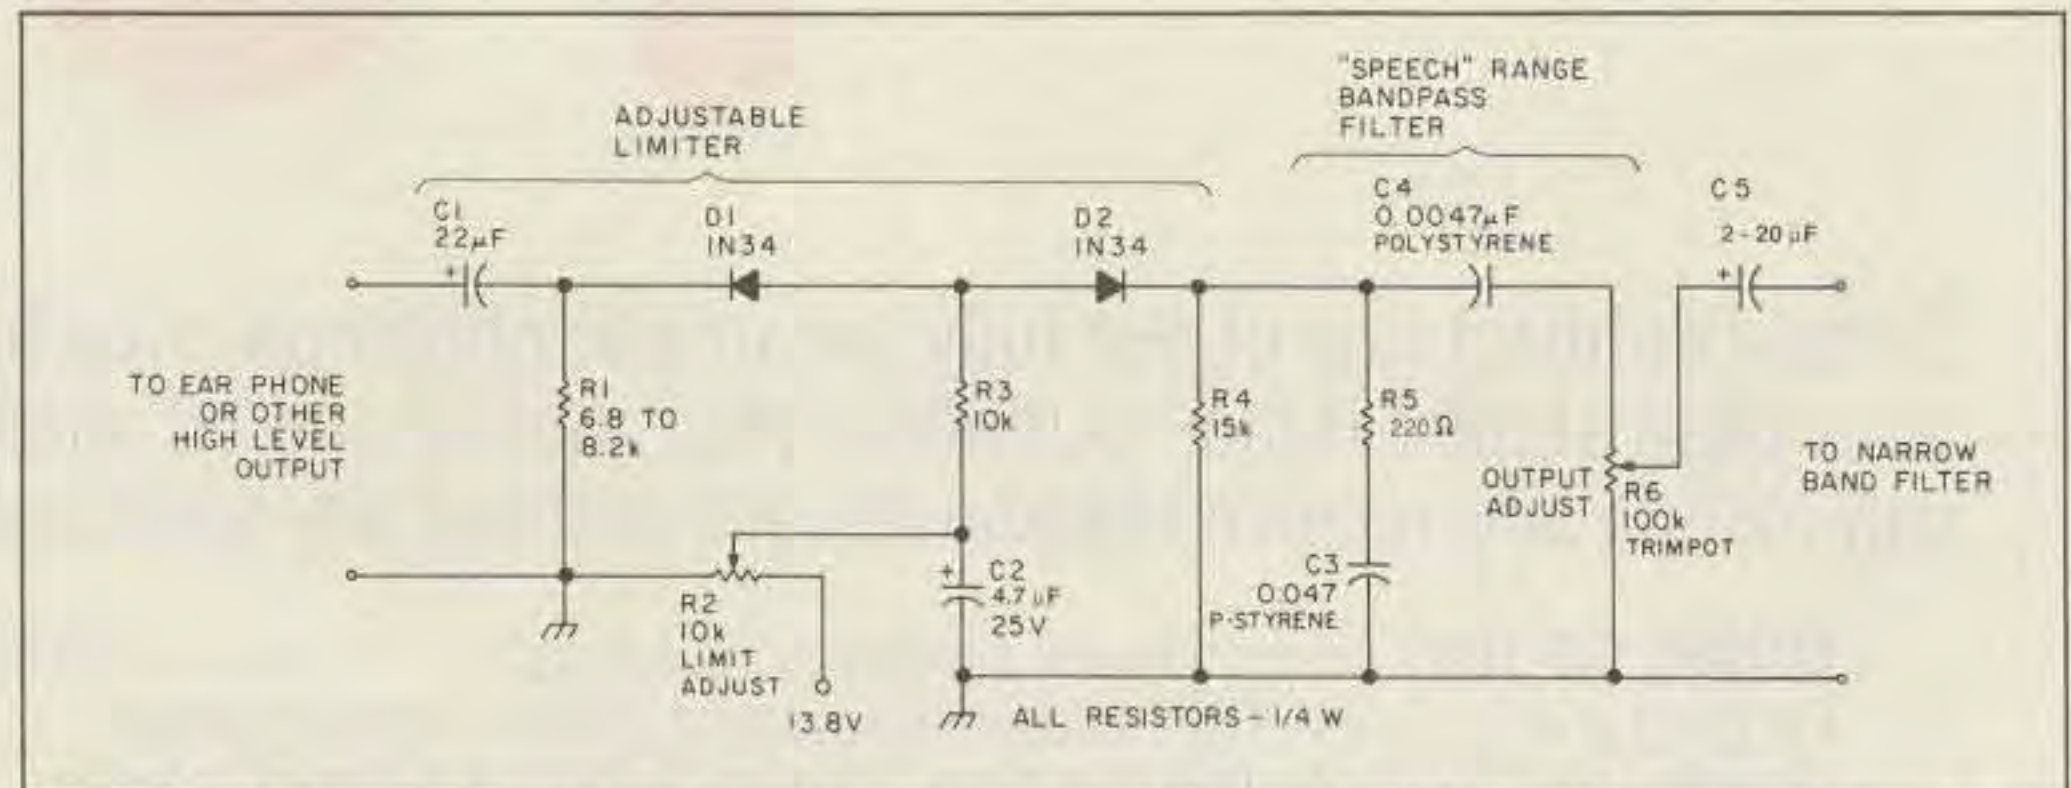
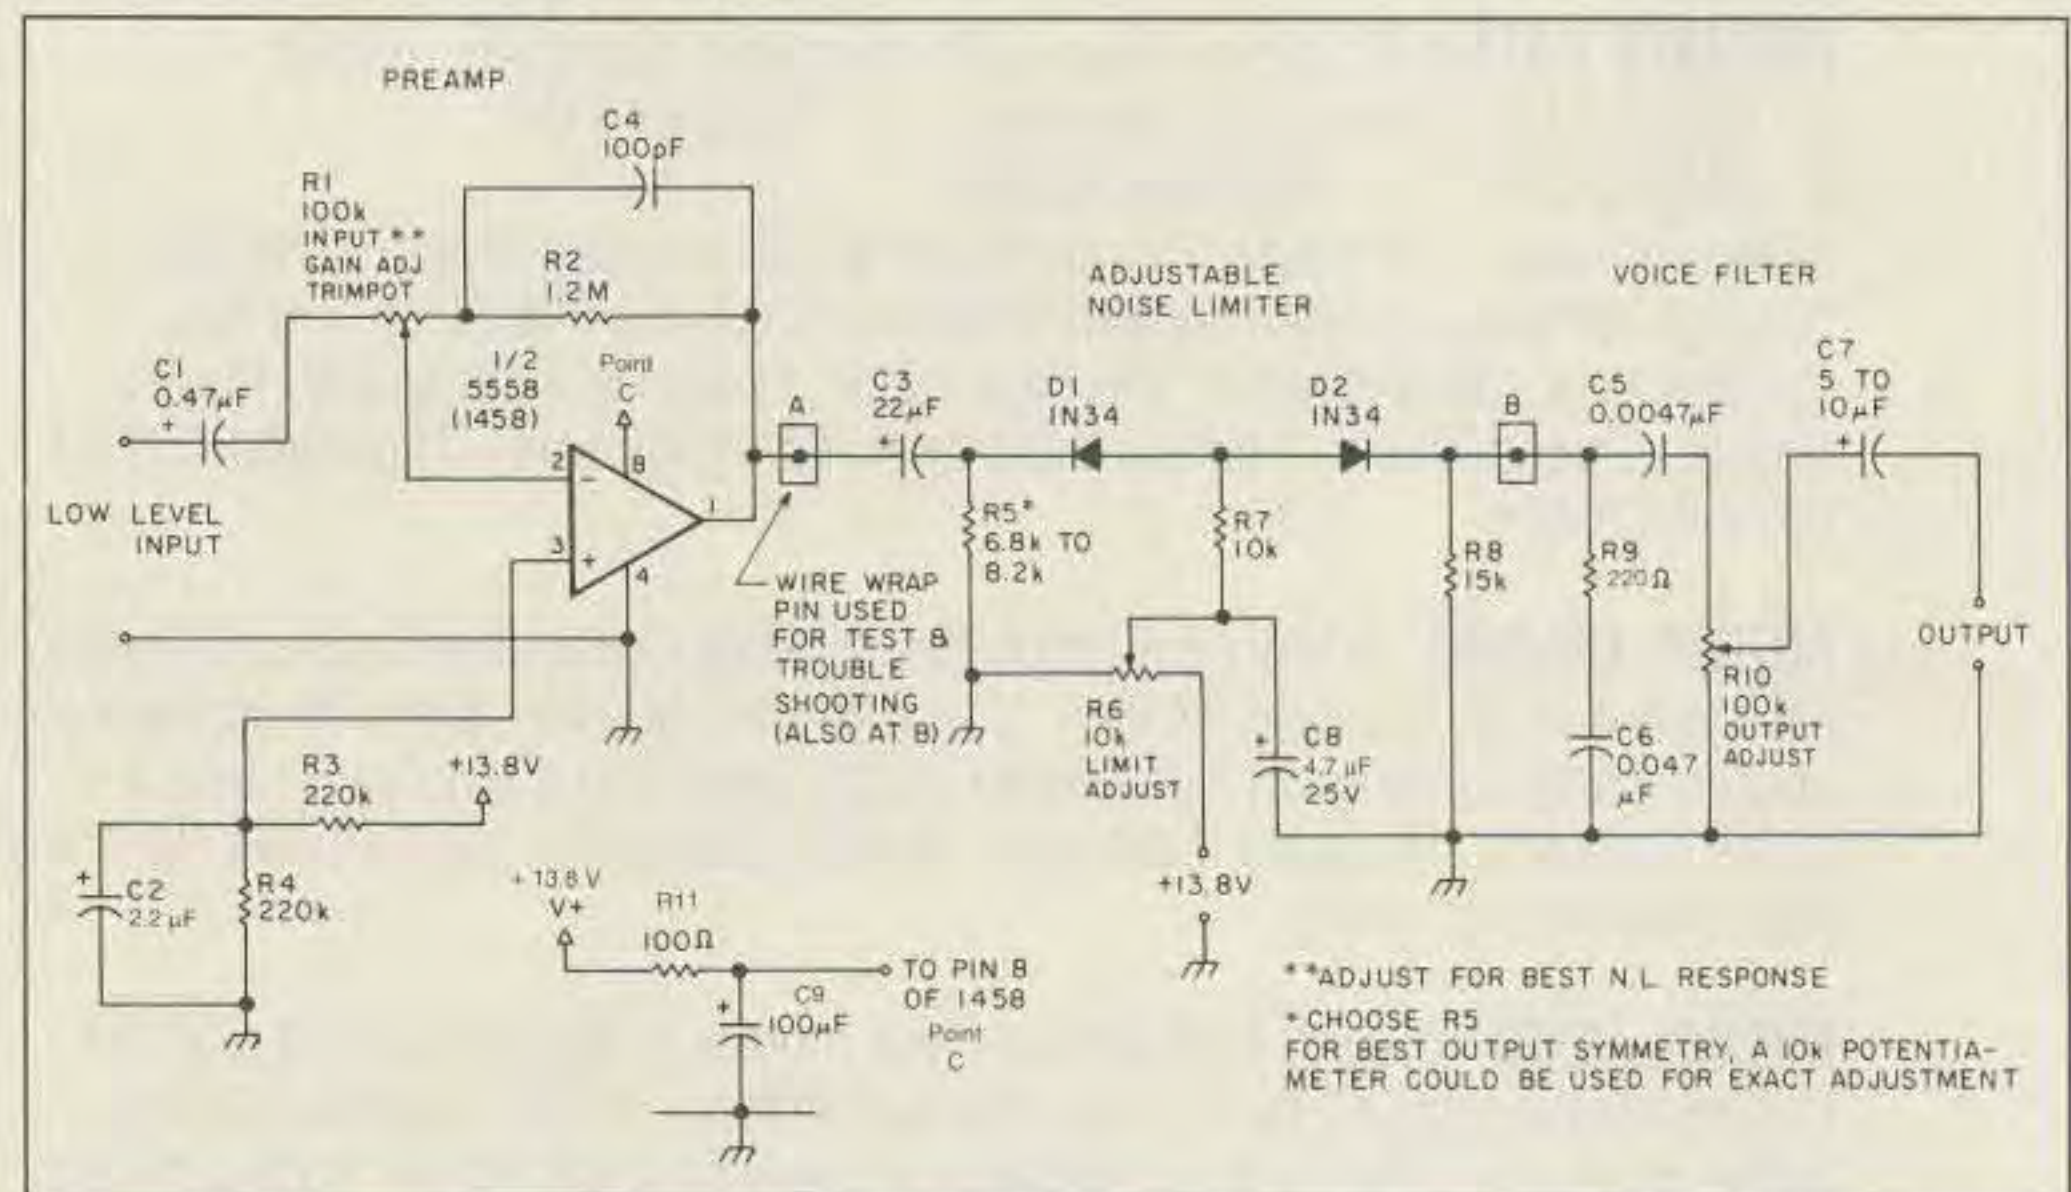
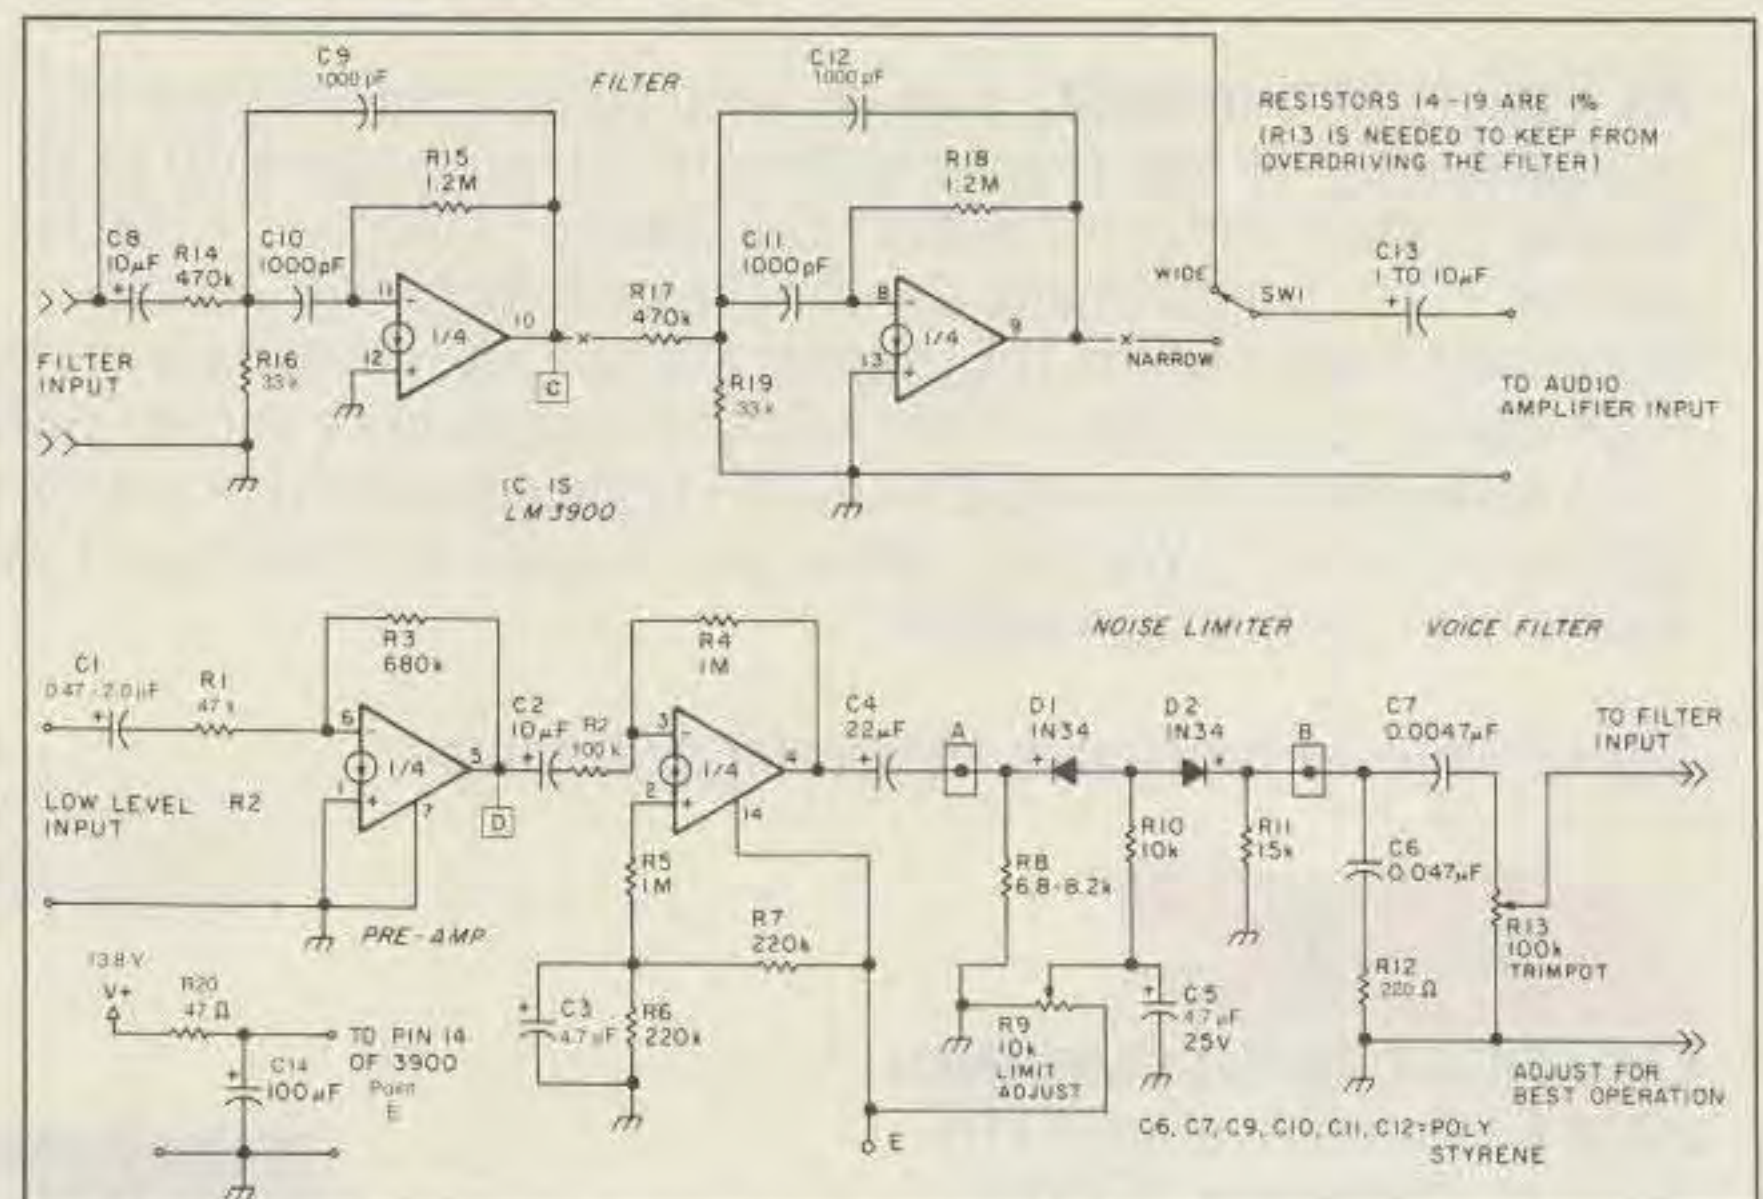

Figure 1. Noise-limiter schematic. Use this circuit if a high level signal is available and you have an "add-on" narrowband filter.
Figure 2. Schematic of the noise-limiter with a pre-amp. For a low level signal if you have an "add-on" filter such as an MFJ CW type.
Figure 3. Schematic of the noise-limiter with a built-in amplifier and filter.
The circuit that does the job is shown in Figure 1. Most noise-limiter circuits are of the shunt type. This one is a series limiter. The bias on the diodes is adjusted by the 10k limit adjust pot. The resistor marked 6.8 to 8.2k (a 10k/25 turn pot can be used here) is used to adjust symmetry. The capacitor is a bias filter; the 15k resistor is the output load. The 220 ohm, 0.047  $\mu$ F, and 0.0047  $\mu$ F capacitors form a speech range filter. The 100k output adjust potentiometer can be a trimmer or a standard audio taper "volume control."
Three circuits are shown. With so many different situations out there it's a hard call to make as to which circuit to recommend, but it is best to place the noise limiter ahead of any filter. In the Sudden receiver, place the noise limiter ahead of the LM386. In fact, in a simple receiver, use the circuit in Figure 3. The circuit between the X's could be omitted for first-time builders. All it does is give steeper
I used a panel mount pot for the *limit adjust* pot (R2 in Figure 1, R6 in Figure 2 and R9 in Figure 3) so I could easily adjust the noise reducer. Hook up a 10k pot in place of the resistor marked 6.8 to 8.2k (R1 in Figure 1, R5 in Figure 2 and R8 in Figure
Tune in a signal with your receiver and set resistor R1 (marked R5 in Figure 2 and R8 in Figure 3) to 2/3 of its maximum resistance. Next, set the
*limit adjust* pot (R2 in Figure 1, R6 in Figure 2 and R9 in Figure 3) to maximum. Then adjust the output pot (R6 in Figure 1, R10 in Figure 2 and R13 in Figure 3) for the optimal output level. Adjust the *limit adjust* control (R2 in Figure 1) counterclockwise until clipping occurs (listen for a definite change in the quality of the sound). Rock R1 back and forth until you hear a clean sound. From this point on you only need to adjust the *limit control* for noise reduction.
### *Basic Noise-Limiter (see Figure 1).*
### *Noise-Limiter with Preamp (see Figure 2).*
### *Noise-limiter + Amplifier and Filter (see Figure 3).*